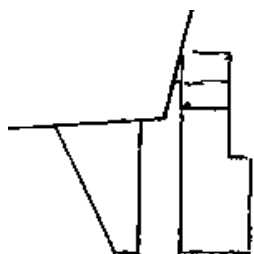

figure 1
- 1) Rudders mounted wrong way round (see figs. 1 & 2)
Fig1 shows how the rudders were factory fitted. I heard complaints from other 900 owners about excessive turbulence & vibration in the vicinity of the rudders when under way. The reason became apparent when the boat was lifted. The position of the rudders as fitted at the factory meant that the gap between the trailing edge of the skeg and the leading edge of the rudder was too wide, creating excessive vibration & turbulence. All control surfaces whether horizontal or vertical, aircraft rudder or indeed boat rudder should be balanced, that is why roughly 10% of the rudder mass is in front of the point of pivot. It remains a mystery to me as to how the manufacturers could get this so wrong! With the rudders positioned the right way, the steering is light, positive and without rumble or vibration.